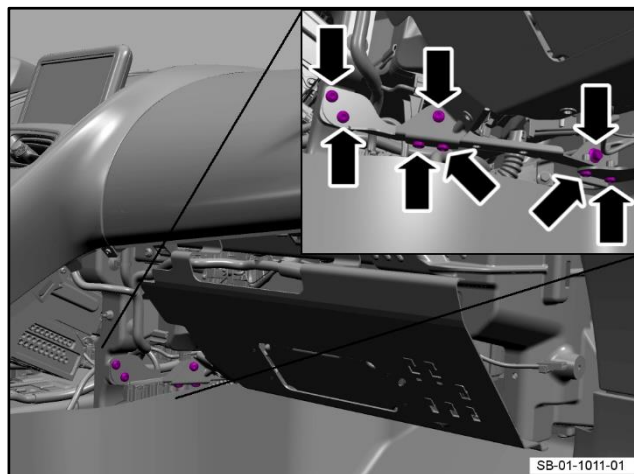

**Figure 11**
2. Remove the passenger's bottom panel for the instrument panel (IP) (refer to Workshop Manual procedure 01.12.DV).
3. Remove the 8 bolts that attach the passenger knee airbag support bracket to the passenger knee protection plate and the IP assembly (refer to Figure 11).